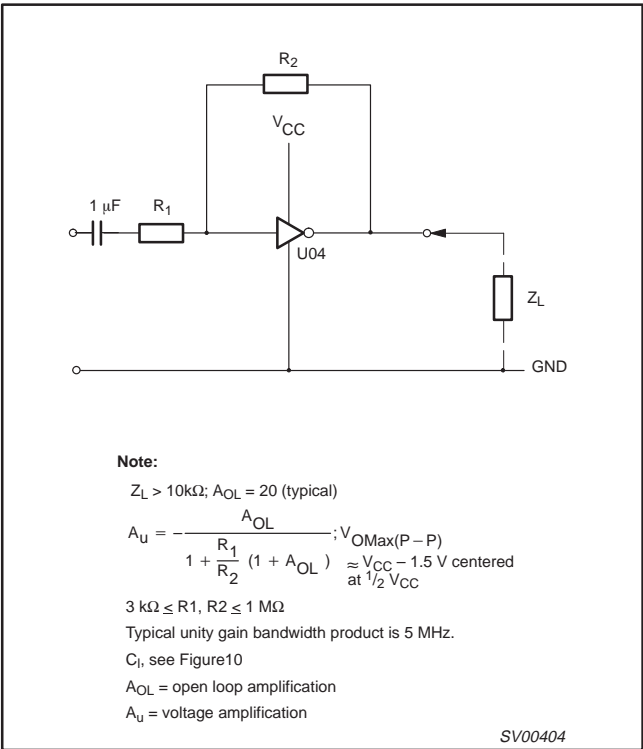

Figure 7. LVU04 used as a linear amplifier.
- Linear amplifier (see Figure 7)